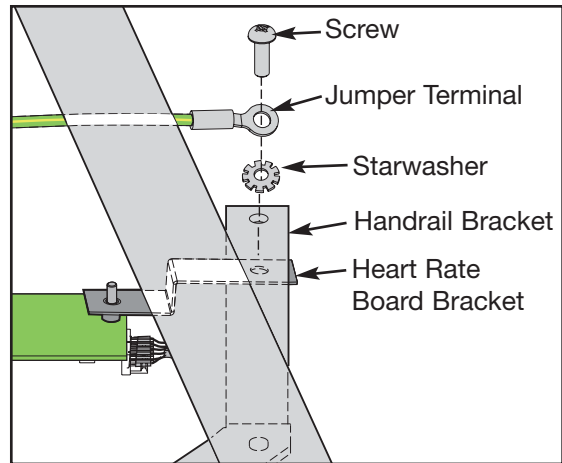

Figure 28
- A. Using a Phillips head screwdriver, remove the nine black screws securing the console front to the handrail. **NOTE:** Do not lose the screw and starwasher shown in Figure 28.
A. Place the starwasher next to the handrail bracket metal and hold the jumper terminal on top. See Figure 28.
B. Place the Phillips head screw removed in step 4A through the terminal, starwasher, handrail bracket and heart rate bracket and secure it tightly using a screwdriver. See Figure 28.